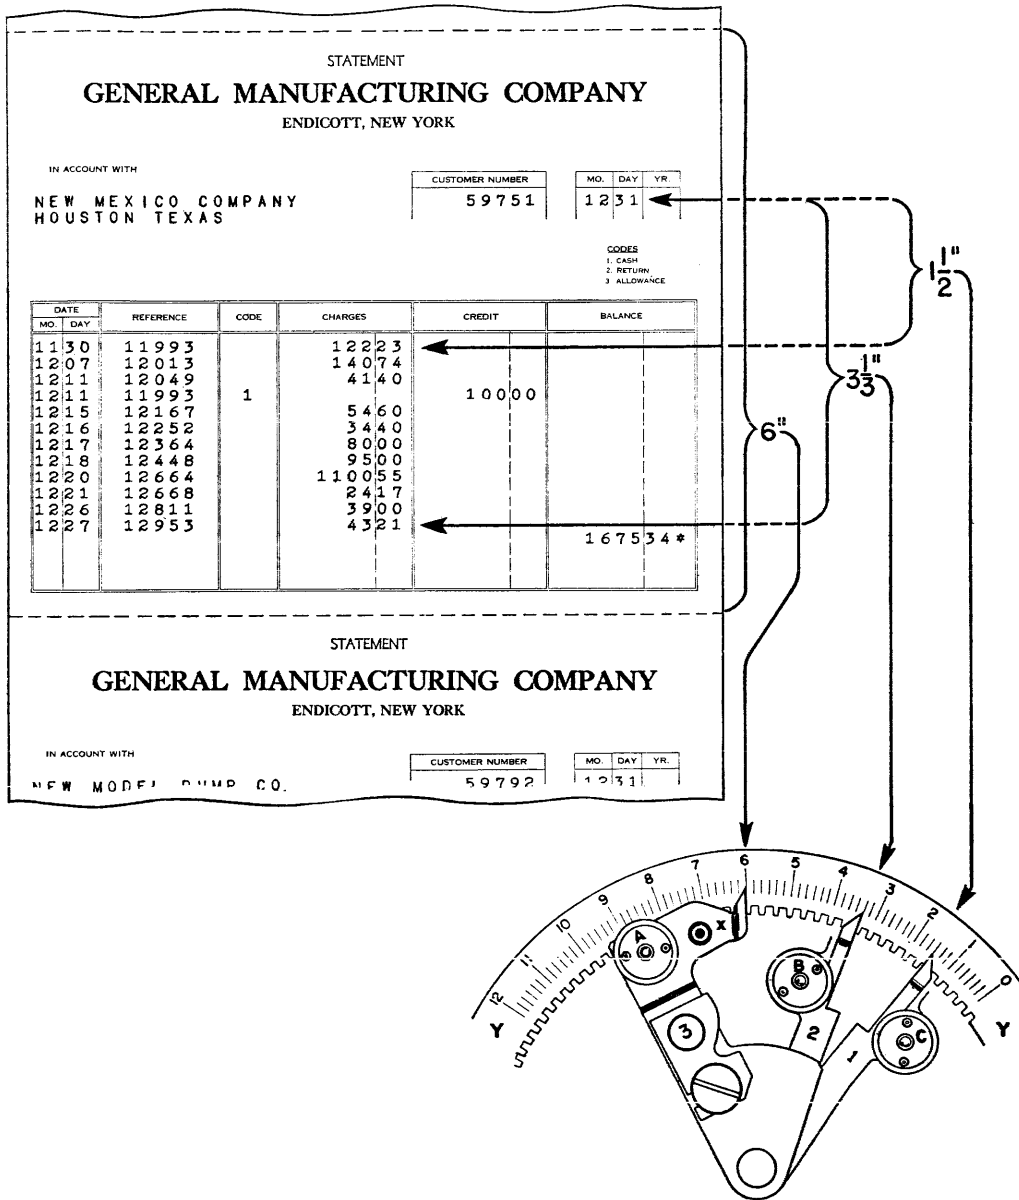

FIGURE 68. ADJUSTMENTS
THE CARRIAGE locating arms must be adjusted for each operation, as illustrated in Figure 68. The adjustment of the arms is made on the graduated scale, Y, which is divided to correspond to inches and sixths of an inch, or line spaces on the form.
the following form is automatically positioned when an ejection takes place. In Figure 68, because the length of the form is six inches, arm 3 is set at 6.
Arm 2 is normally set at the point on the scale representing the distance from the first printing line to the last printing line on the form. In Figure 68, this is 3-1/3 inches. As printing takes place and the last printing line is reached (by line spacing), an impulse is available at the control panel that indicates the form has been moved through the distance set by arm 2. This impulse can be used to cause ejection or for other operations.
Arm 1 is normally set at the point on the scale representing the distance from the first printing line in the heading to the first printing line in the body of an invoice or similar form that is divided into two or more sections. In Figure 68, this distance is 1-1/2 inches. The carriage can be signalled to move the form (by skipping) through the distance marked by the arm 1 setting. Whenever the form has been moved (by line spacing) through the distance marked by arm 1, an impulse is available that can be used to control other functions of the carriage or accounting machine.
1. Loosen clamp nut A (Figure 68) several turns, using the special wrench for this purpose.